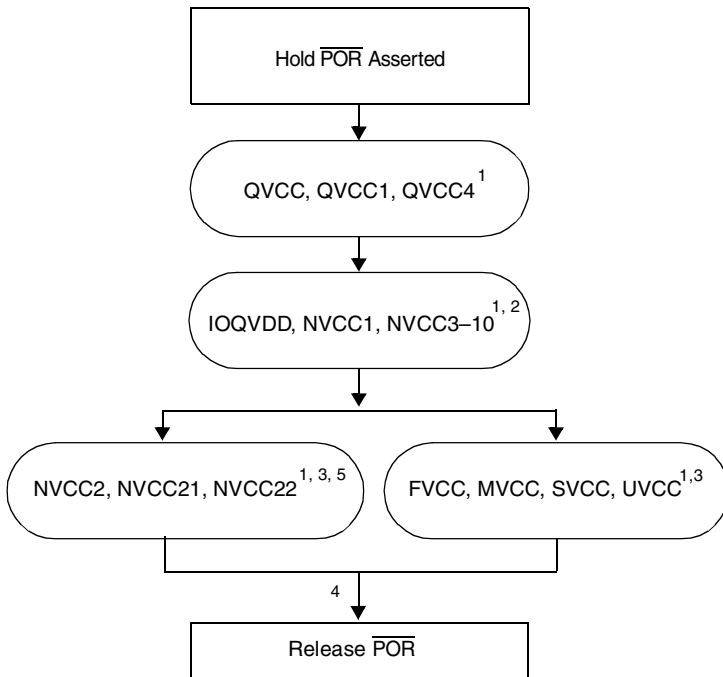
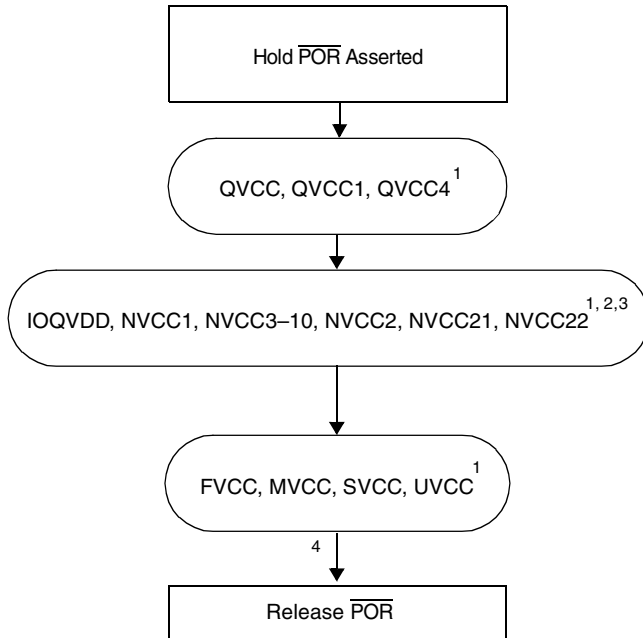

Figure 2. Option 1 Power-Up Sequence (Silicon Revision 2.0.1)
Figure 3. Option 2 Power-Up Sequence (Silicon Revision 2.0.1)
The Power On Reset ($\overline{\text{POR}}$) pin must be kept asserted (low) throughout the power up sequence. Power up logic must guarantee that all power sources reach their target values prior to the release (de-assertion) of $\overline{\text{POR}}$. Figure 2 and Figure 3 show the power-up sequence for silicon Revision 2.0.1.
- 3 Raising NVCC2, NVCC21, and NVCC22 at the same time as IOQVDD does not produce the slight increase in current drain on IOQVDD (as described in Figure 2, Note 5).